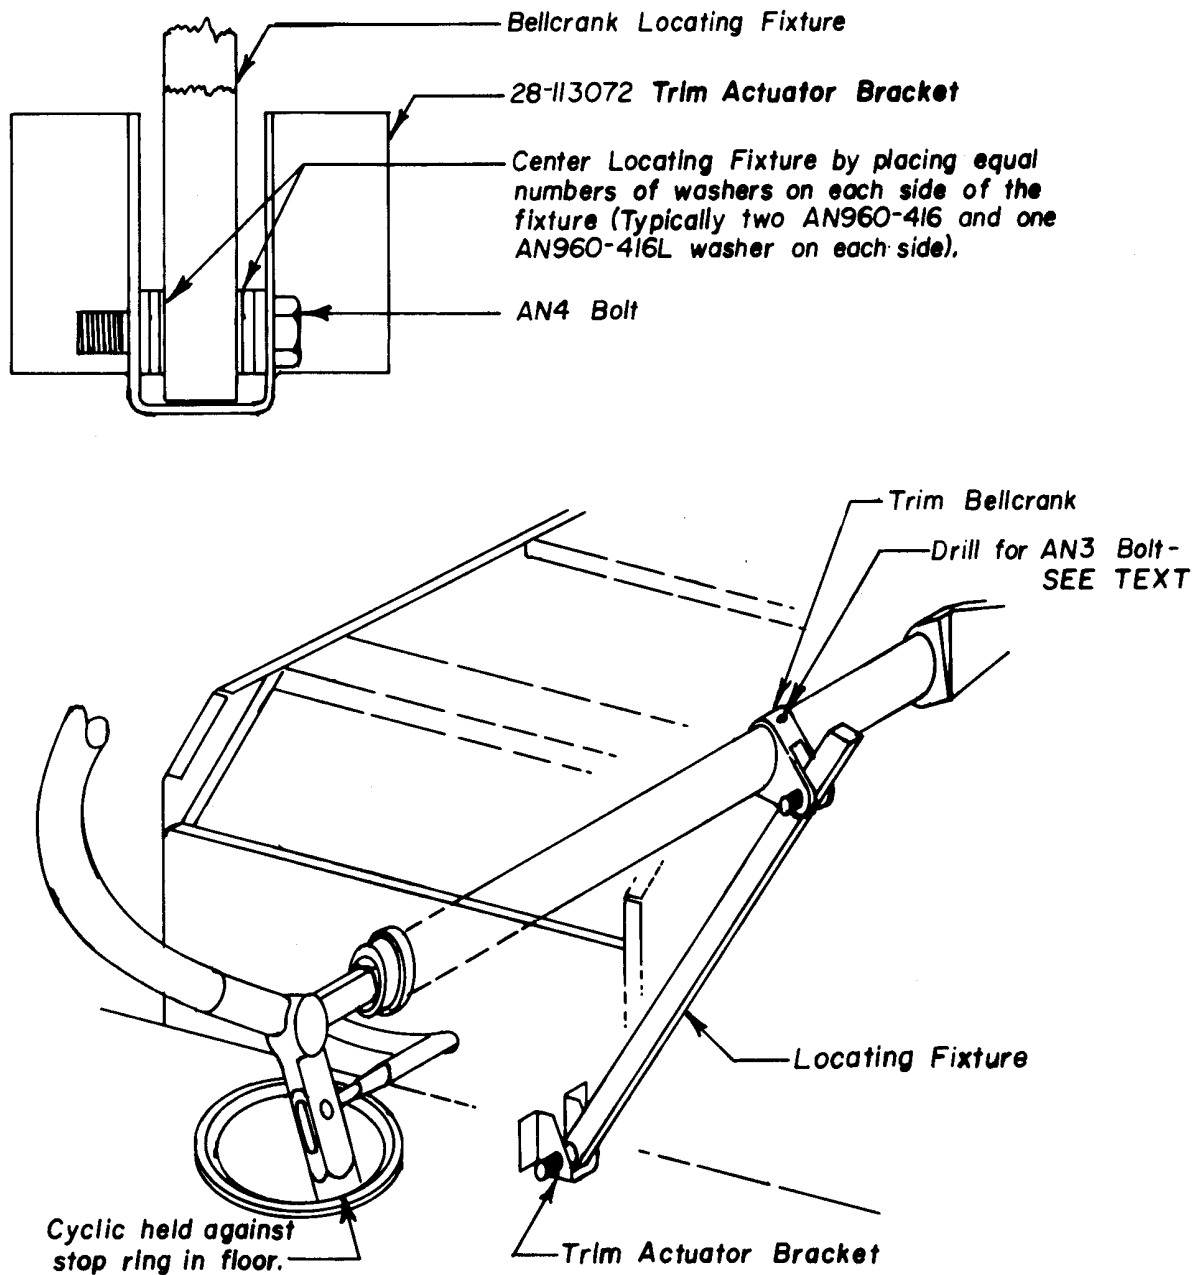

FIGURE 6 - Locating the Trim Bellcrank
8. Rotate the trim bellcrank down and align it with the fixture. Bolt the fixture in the trim bellcrank using an AN4 bolt (Figure 6).